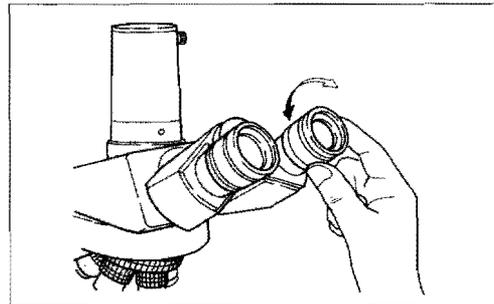

Fig.8-2
(2) Swing the 40X objective by turning the revolving nosepiece and bring the specimen image into focus by turning the fine focus knob (or the coarse focus knob).
(3) Swing the 4X or 10X objective into position. Without manipulating the fine and coarse focus knobs, turn the diopter rings on the eyepieces so that the specimen images in the right and left eyepieces are focused individually (Fig. 8-2).